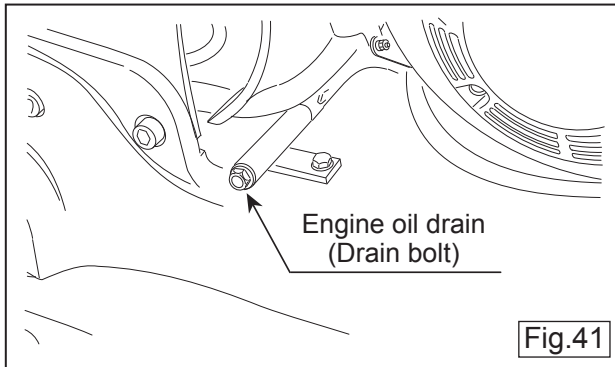

Fig.41
- Perform the first engine oil change after 20 hours of operation, then change at every 100 hours.(Fig.41)